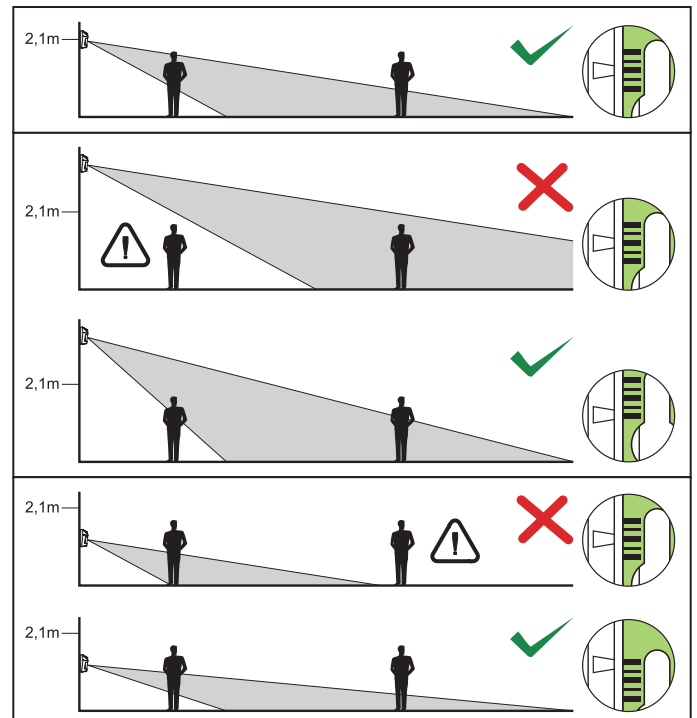

Figure 3. The controlled area depending on the detector installation height and positioning of pyroelement in relation to the lens for the optimal setting.
6 – scale for positioning of pyroelement against the lens (see Table 2 and Figure 3).
6. Fasten the electronics board, taking into consideration the height of detector installation (see Table 2 and Figure 3).